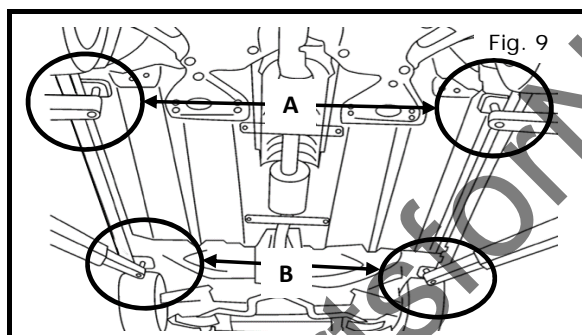

Fig. 9
- a) Be sure to position front lift arms on lift points marked here as "a" or the rear lift points marked as "b" as shown in Fig. 9.